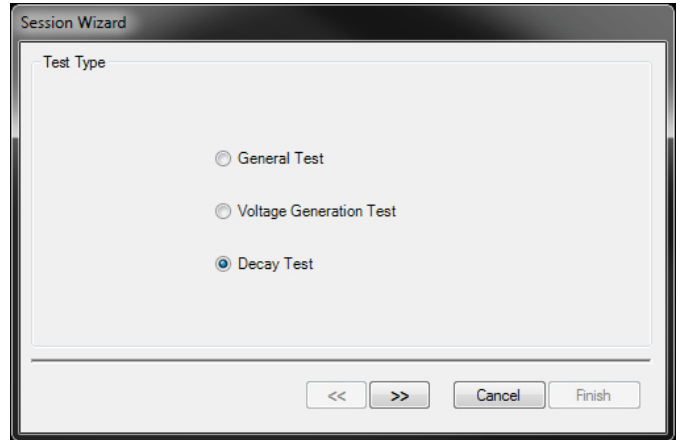

Figure 9: Autoanalysis Software Start Screen
6. Select **“Start a New Session Wizard”** and Click **OK** as in Figure 9, will open Session Wizard Test Type screen (Figure 10). Select Test Type and provide the requested information to be included in test reports. See The Session Wizard section below for further details.